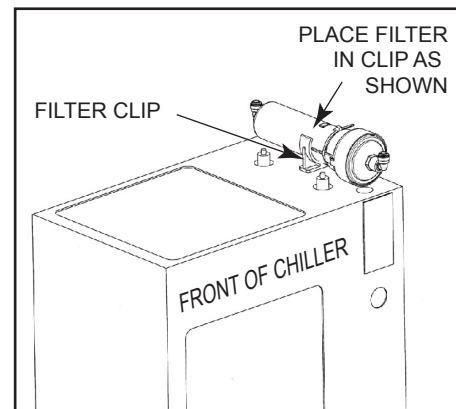

FIG 5
- A** SCREW FILTER CLIP TO UNIT IN LOCATION AS SHOWN IN FIG. 5 (SCREW PROVIDED)